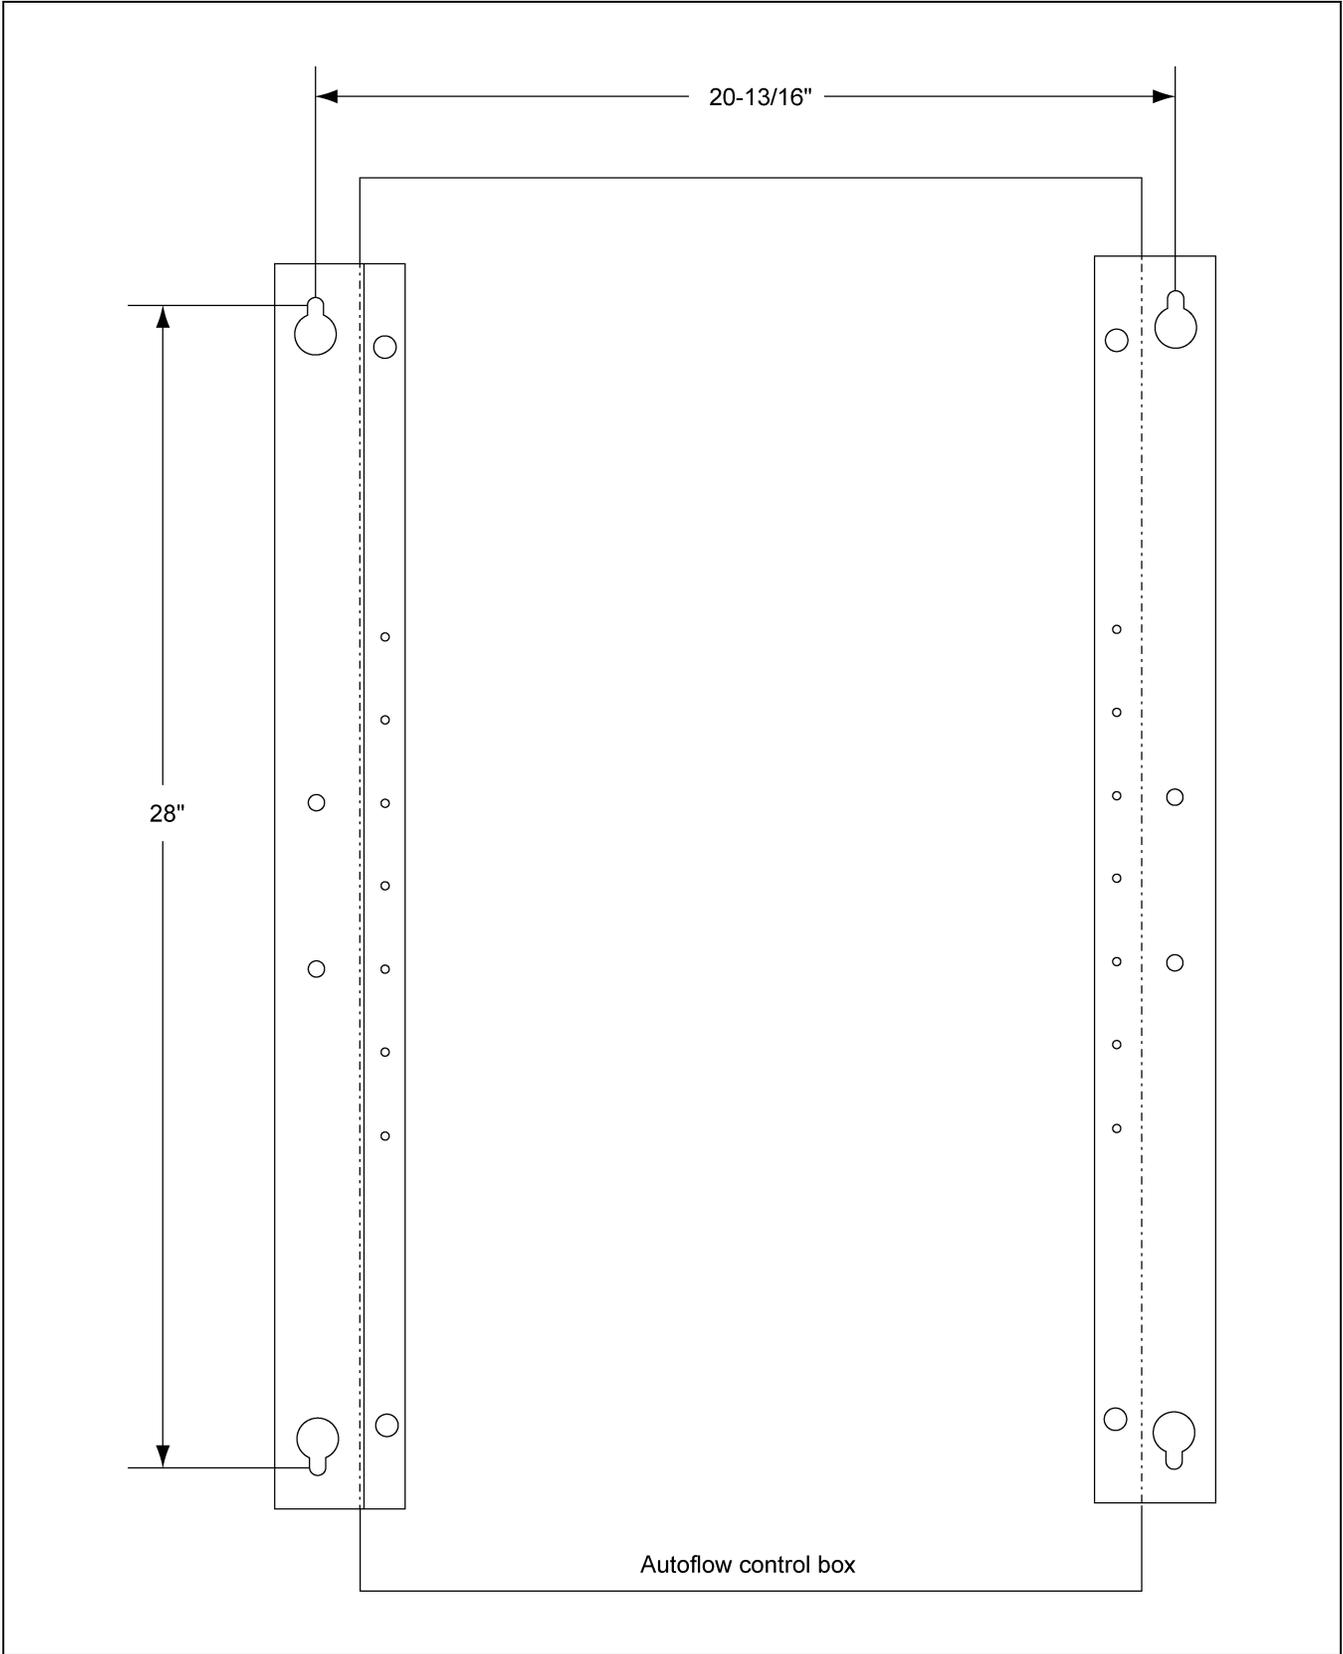

Figure 3C Illustration of the bolt pattern for the autoflow control box.
3. Use the hole pattern in *Figure 3C on Page 12* to drill holes for mounting the Autoflow control box.